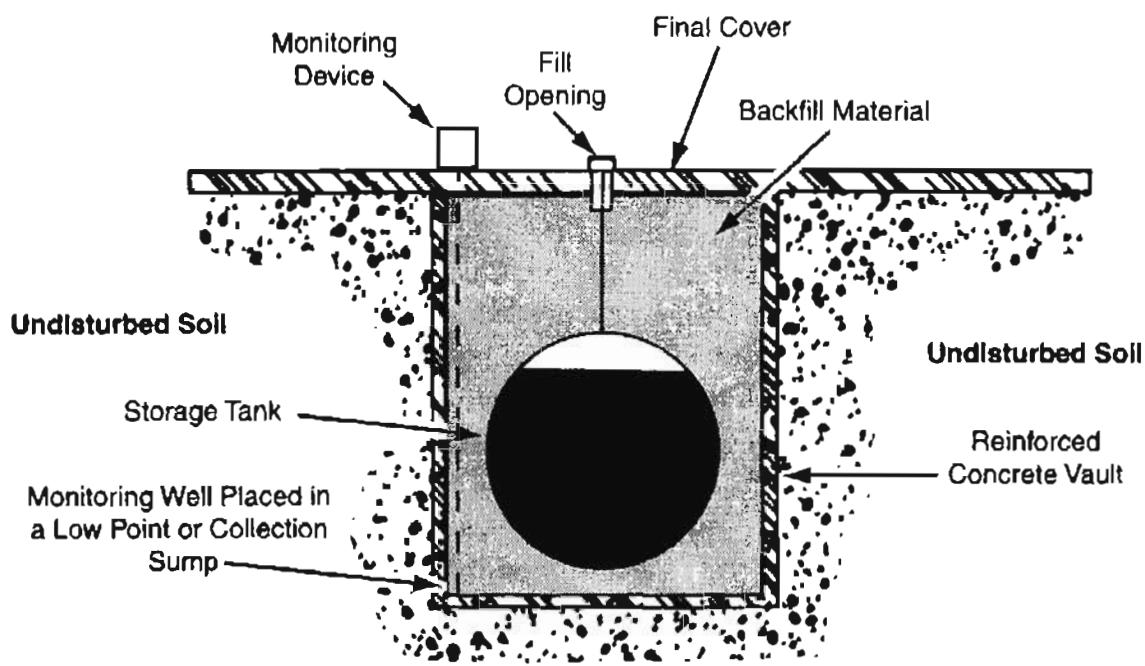

Figure P2.20
- *2.20** In fully vaulted storage systems (see Figure P2.20) the primary container is installed in a completely sealed reinforced concrete vault of monolithic construction. Leak detection is normally achieved by the installation of monitoring wells or sensors in the backfill area. These vaults must be constructed by pouring the floor and walls as continuous structural elements. Chemical resistant coatings on interior surfaces and water barrier coatings on exterior surfaces are required.